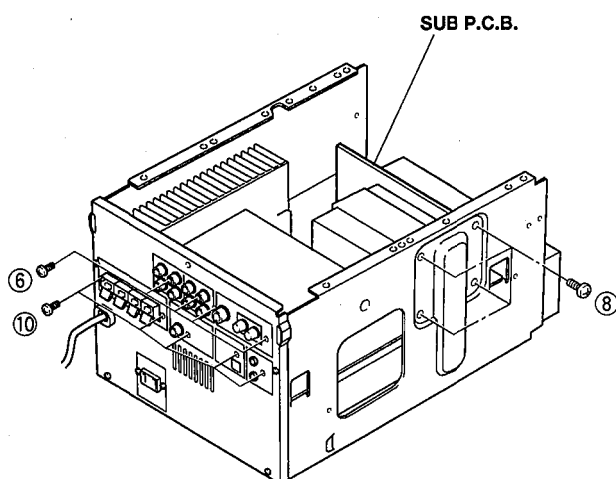

Fig. 3
- Remove 4 screws (⑥) in Fig. 3.
- Remove 5 screws (⑩) and then remove the AMP/CD P.C.B. in Fig. 3.